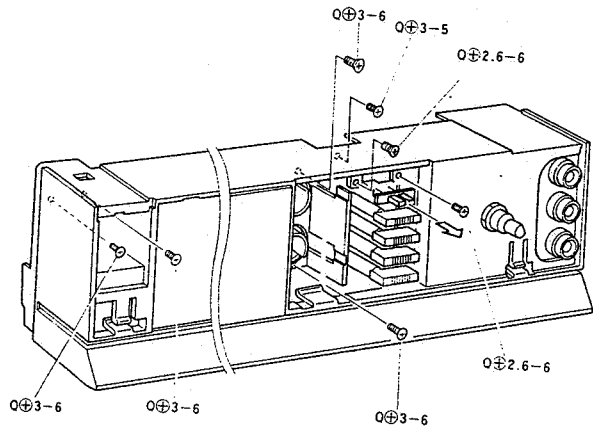

Fig. 10
7) Detach the tape selector button and remove 7 screws. (See figure 10)